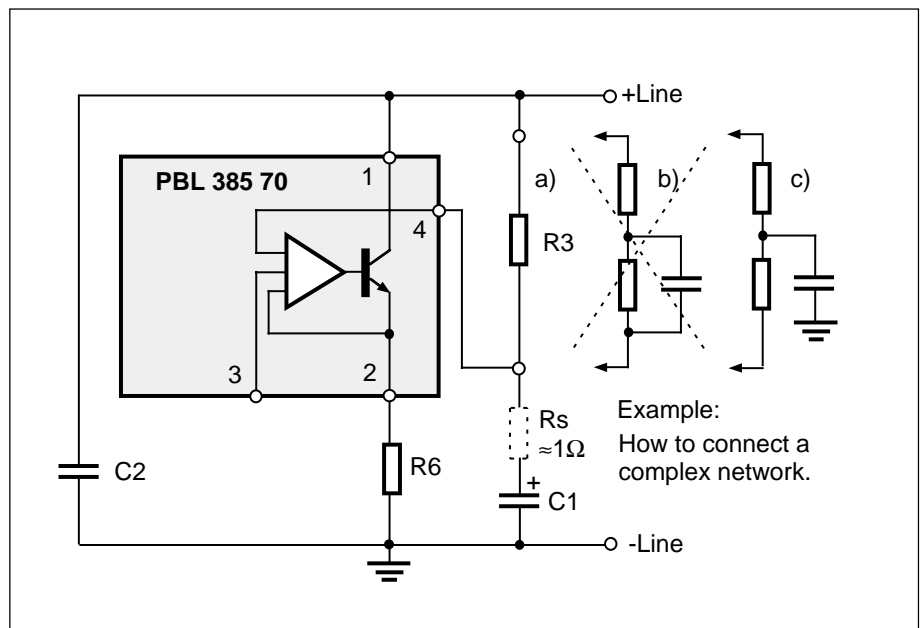

Figure 6. AC-impedance
1. Set the circuit impedance to the line, either  $600\Omega$  or complex. (R3 and C1). C1 should be big enough to give low impedance compared with R3 in the telephone speech frequency band. Too large C1 will make the start-up slow. See fig. 6.
In many specifications the impedance towards the line is specified as a complex network. See fig. 6. In case a). the error signal entering pin 4 is set by the ratio  $\approx R_s / R_{19}$  ( $909\Omega$ ), where in case b). the ratio at high frequencies will be  $R_s / 220\Omega$  because the  $820\Omega$  resistor is bypassed by a capacitor. To help up this situation the complex network capacitor is connected directly to ground (-line), case c). making the ratio  $R_s / 220\Omega + 820\Omega$  and thus lessening the error signal. Conclusion: Connect like in case c) when complex impedance is specified.